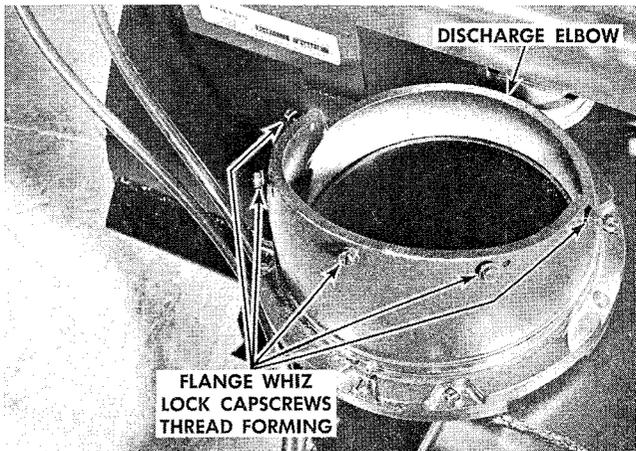

FIGURE 4
2. Remove five hex head Flange Whiz Lock capscrews 1/4-20 x 1/2 from discharge elbow. Position chute over discharge elbow, with opening facing the front and secure with five hex head capscrews removed above. These are thread cutting screws. Care should be taken to start them straight. See figures 4 and 5.